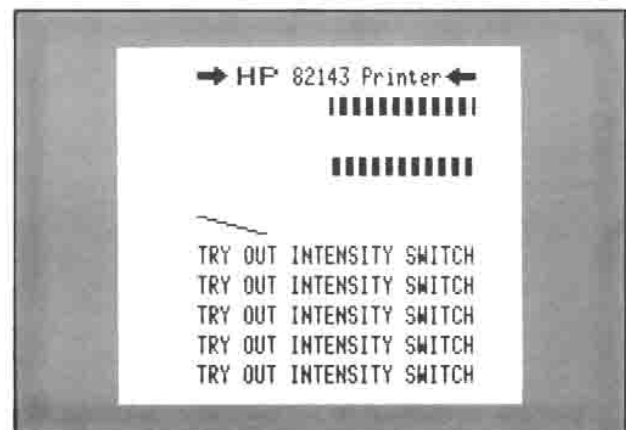

Figure 4-3. Printer Test Output
| 4. Observe the printer output. Check for correct formatting of the first line, for missing dots and uneven contrast in the bars in the next two lines, and for extra dots in the fourth, stepped line. Refer to the first four lines of figure 4-3 for the proper output.   | TURN ON PRTR |
**11. Examine the printer output** produced by the printer test. Check for missing dots and improper alignment. See figure 4-3 for the proper output.